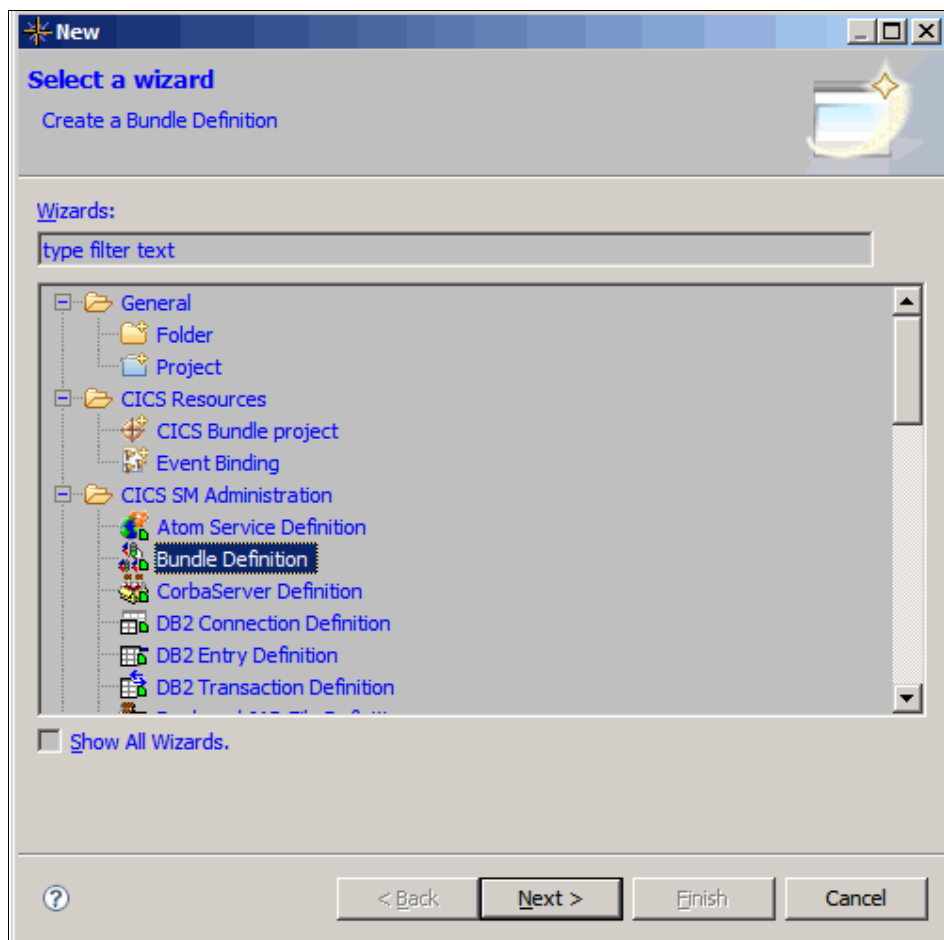

Figure 4-11 Creating a new BUNDEF
- c. Select **Bundle Definition** and click **Next**, as shown in Figure 4-11 on page 69.